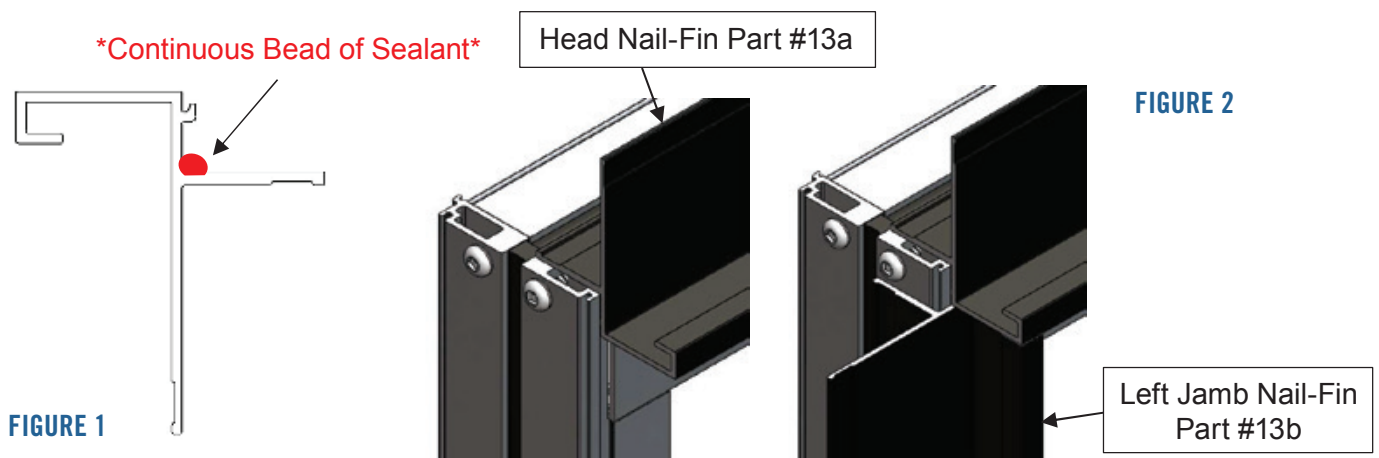

FIGURE 2
12. If your installation includes Nail-Fins, consult steps 12-15. If not, move on to step 16. Connect the head nail-fins (Part #13a) to the head of the frame (head nail-fins have 90 degree cut on one side, 45 degree miter cut on the other). To do this, first apply a continuous bead of sealant to the nail-fins in the pocket they will contact the head (Figure 1). The head nail-fins should extend slightly beyond the head extrusion on the jamb side, and fit into the pocket created by the jambs (Figure 2). Pre-drilled holes should line up on the head and head nail-fin.